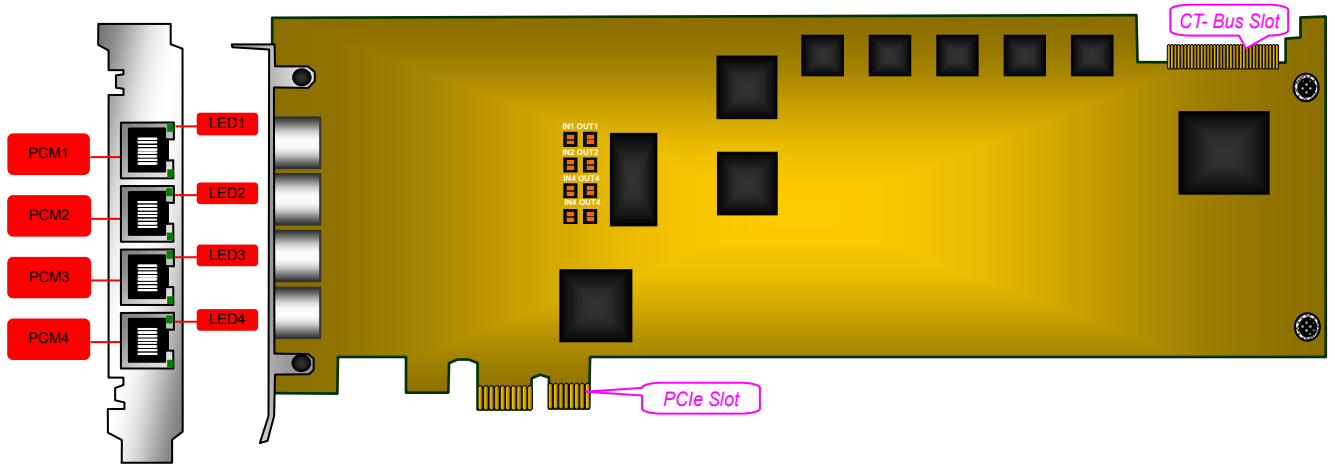
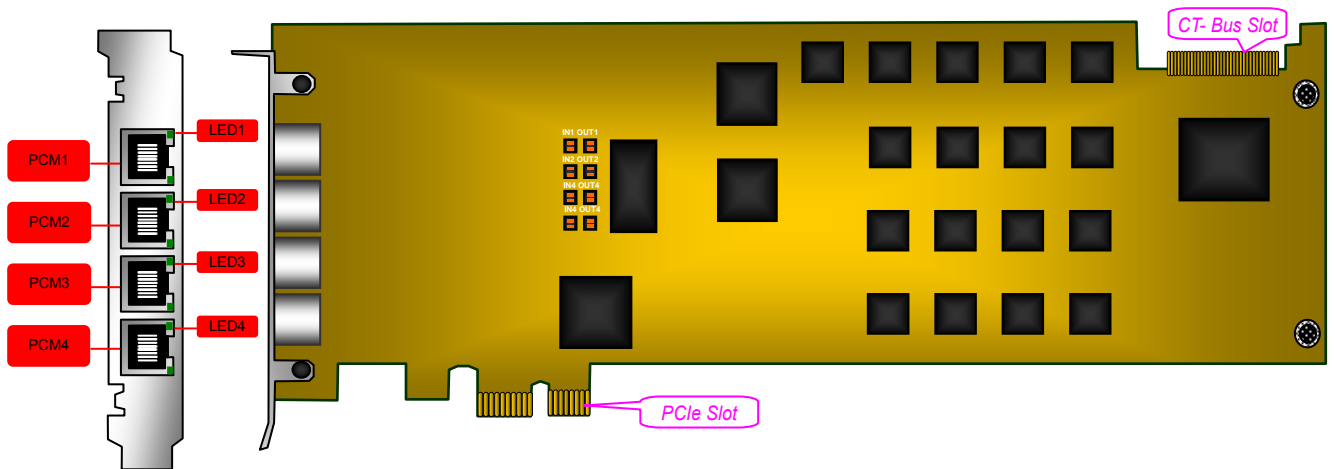

Figure 2-7 Left and Front Views
Figure 2-9 Left and Front Views
1. In Figure 2-7 and Figure 2-9, PCM1~PCM4 indicate 4 trunk interfaces while LED1~LED4 represent their synchronization indicators;